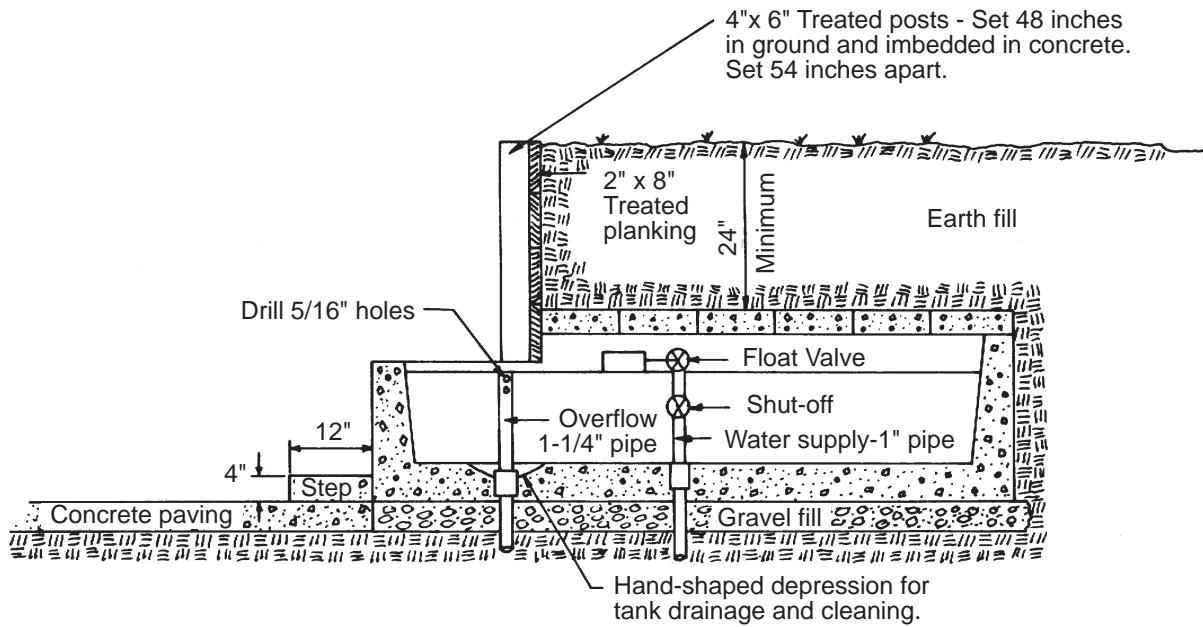

Figure 4. Cross-sectional view of completed tank. The floor of the tank should slope slightly toward the hand-shaped depression around the overflow pipe.
10. Pour the concrete into the forms, starting with the wall section. Work the concrete only enough to be sure there are no voids in it. The depression around the overflow pipe will have to be shaped by hand during the pouring operation (see Figure 4).